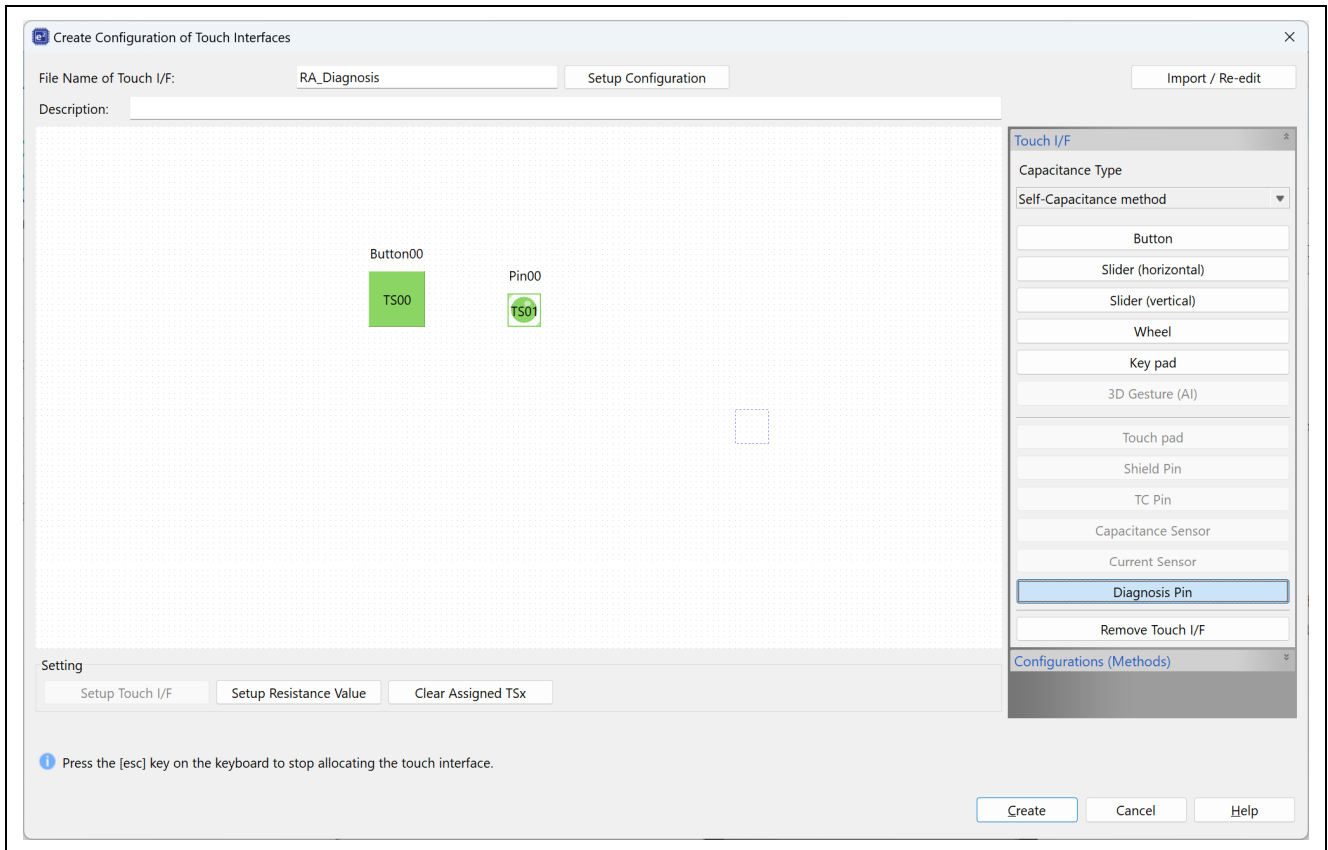

Figure 6-12 Configure TS Pin for Diagnosis in Touch Interface Configuration
14. Open [Renesas Views] > [Renesas QE] > [Cap Touch Workflow (QE)]. As shown in Figure 6-12, click [Prepare a Configuration] and select an existing configuration or create a new configuration
15. Configure the electrode to be used for CTSU measurement. For CTSU1, place a Diagnosis pin and assign it to the TS pin used for Sensor Offset Diagnosis as shown in Figure 6-12.